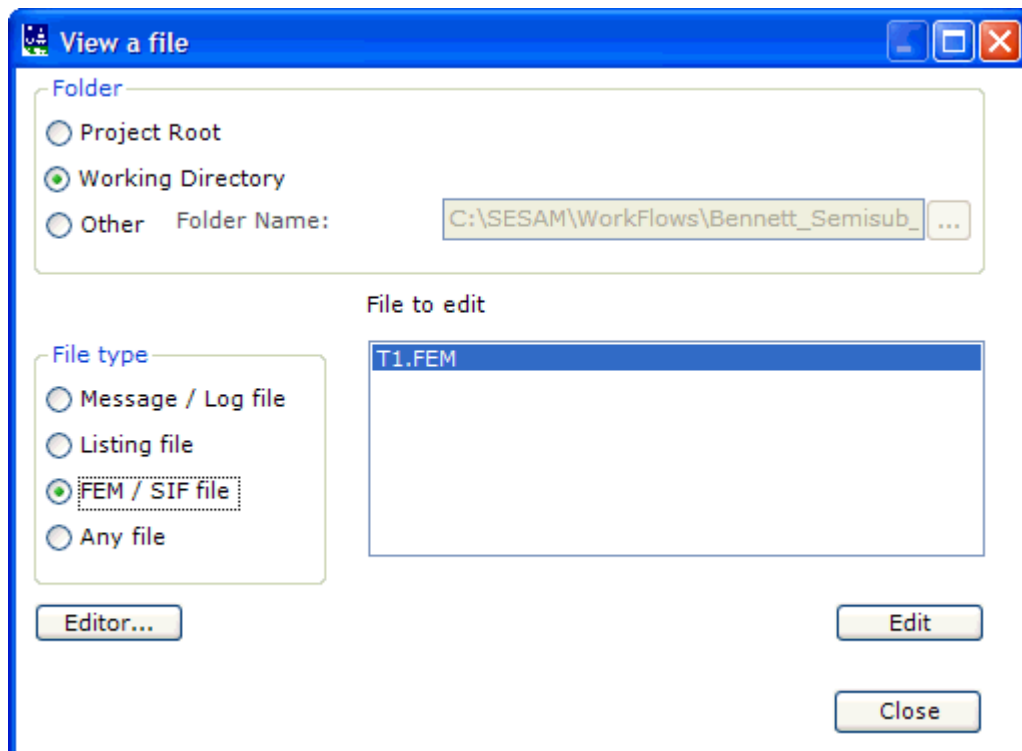

Figure 3.19 The View files dialog enables selection of files. The ‘Edit’ button opens file in editor.
- **View files** – The ‘View files’ button opens the ‘View file’ dialog (see Figure 3.19). View the file by pushing the ‘Edit’ button. Note that the editor selection from the Job Setup controller (see 3.4) may be temporary modified by the ‘Editor...’ button.